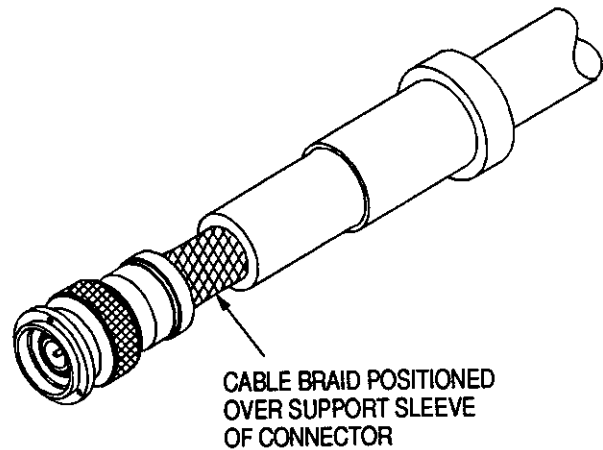

Figure 7
4. Insert center contact into plug body, making sure the cable braid is positioned over the connector support sleeve. See Figure 7. Pull back gently on the cable to ensure that the contact is held in place by the internal locking feature.